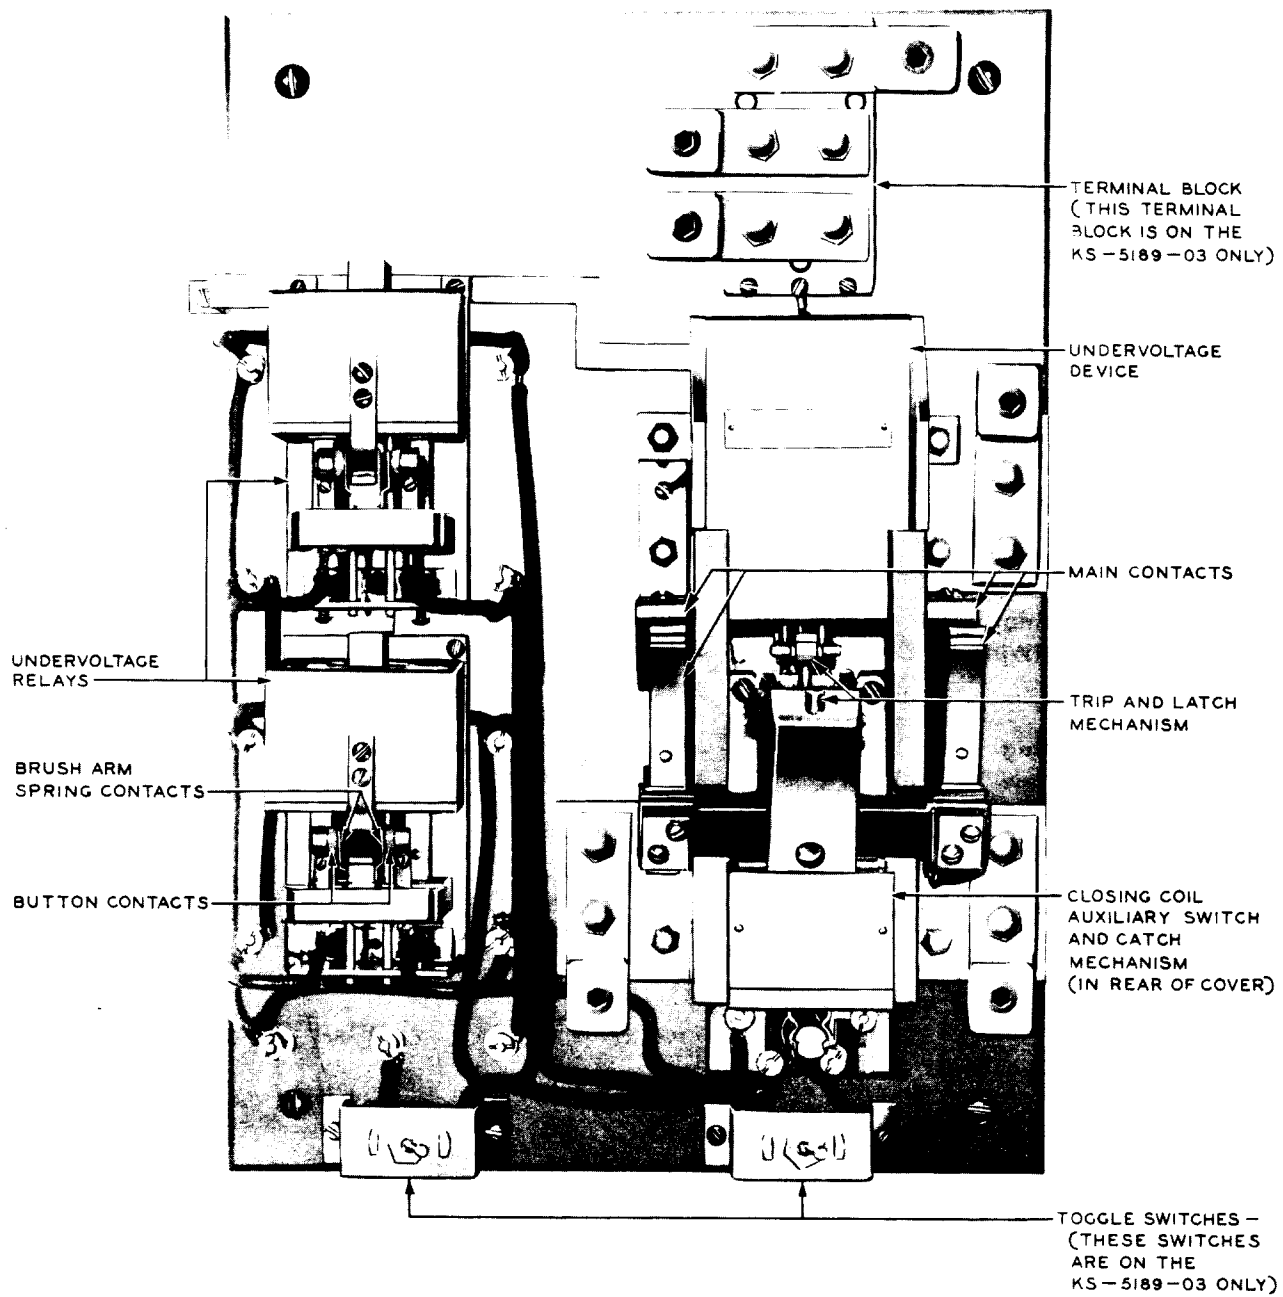

Fig. 1—Emergency Lighting Relay Switch for 3-Phase Service (Without Cabinet, Old Version)
3.01 When ordering, give the name of the parts as shown in Fig. 1 through 8 of this section. The KS and list number should be included in the order, eg, undervoltage monitor, test switches, and contactors for emergency lighting relay switch KS-5189-03. Replacement parts are no longer made for the Palmer emergency lighting relay.
The contact buttons and brush arm of the voltage relays, as shown in Fig. 1 and 2, may be replaced readily without taking off the relays. To replace the coils, note the wire connections to the relay and remove them. Remove the case ground connections and the relay which is held by the screws above the relay. The coils may then be readily replaced and the parts assembled. Replacement parts are no longer available for the old version.